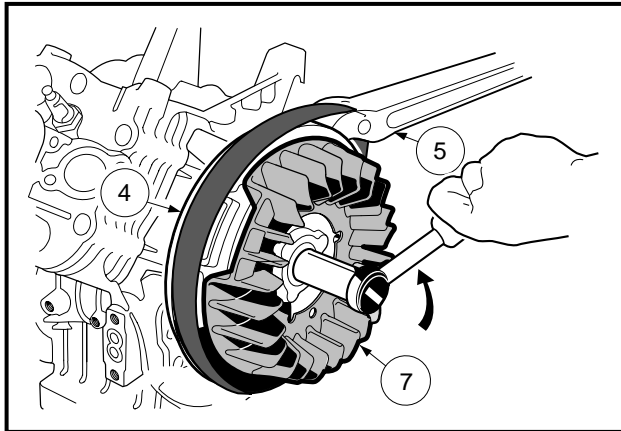

Figure 13-63 Flywheel Nut Removal
- Hold the flywheel (4), **not the fan** (7), with a strap wrench (5) and, using a 25 mm socket, remove the flywheel nut (and flat washer) by turning it counterclockwise (**Figure 13-63, Page 13-32**). **See following CAUTION.**